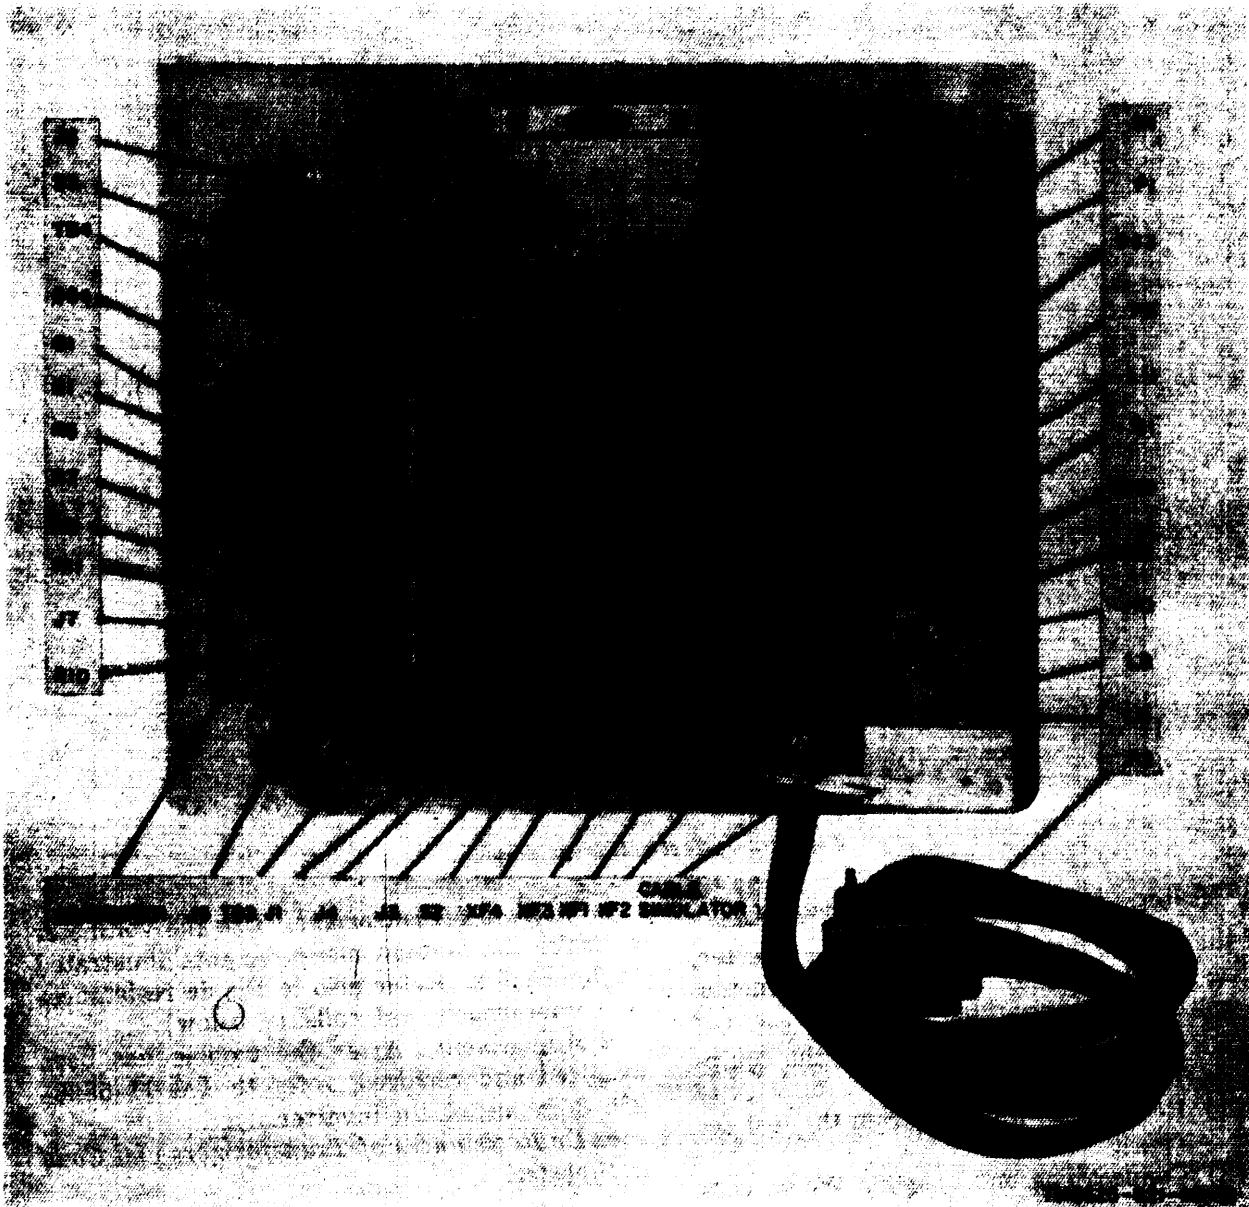

Figure 2-2. Rear side of test set, front panel.
- (1) Remove the test set front panel (para 3-7).
- (2) Remove the covers from the converter and cable simulator circuits (fig. 2-2).
- (2) Remove the two screws from the cover that shields the converter circuit (fig. 2-2).
- (3) Lift the cover away from the test set.
- (4) Replace the defective parts (a above).
- (5) Replace the cover over the converter circuit and secure it with the two screws.
- (6) Replace the test set front panel (para 3-12).
- (2) Remove four screws from the plate that covers the shield in which the cable simulator circuit is mounted (fig. 2-2). Remove the plate.
- (3) Replace the defective parts (*a* above).
- (4) Replace the plate over the shield of the cable simulator circuit and secure with the four screws.
- (5) Replace the test set front panel (para 3-12).